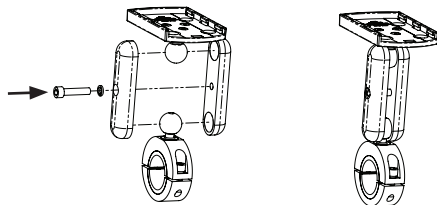

Figure 3
4. Using the $5/32$ " Hex Key, loosely reassemble the top portion of the Mount as shown in **Figure 3**.